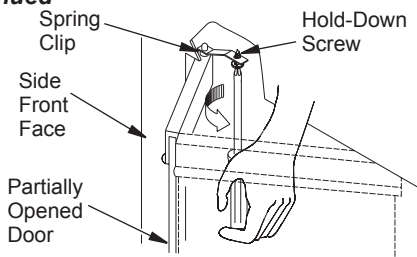

Figure 34 - Adjusting Glass Doors
- To adjust doors, slide them partially open. Using a screwdriver, loosen hold-down screws in the spring clip (see Figure 34) and pivot plate.